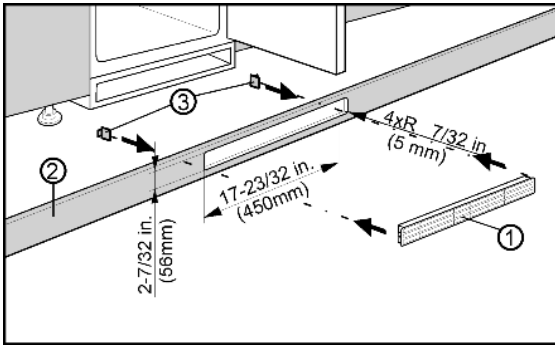

Fig. 6
Ventilation through the cabinet base at the bottom can be achieved by installing the provided ventilation grille *Fig. 6 (3)* or via a ventilation opening of at least 31 in² (200 cm²). When using the provided ventilation grille *Fig. 6 (3)*, please proceed as follows:
- ▶ Insert ventilation grille *Fig. 6 (3)* into the cabinet base cut-out *Fig. 6 (1)*.
- ▶ From the back side, slide the snap-fits *Fig. 6 (2)* into the grille until the hooks make contact with the cabinet base.